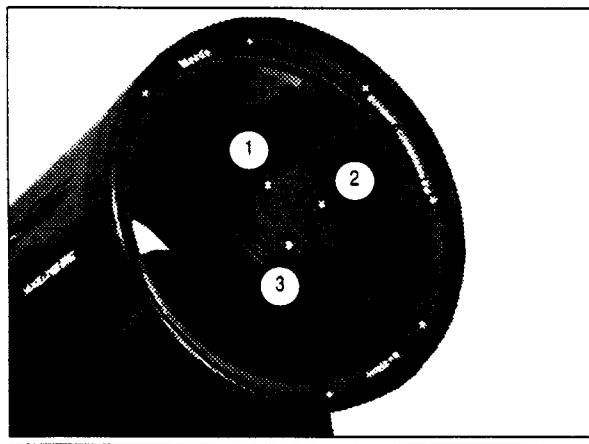

Fig. 15: Collimation of the Optical System. (1), (2), (3) Set screws for adjusting collimation.
- a. To make collimation easy, the only adjustments possible on the 16" LX200 come from the three set screws (shown in Fig.15) located at the edge of the outer surface of the secondary mirror housing.